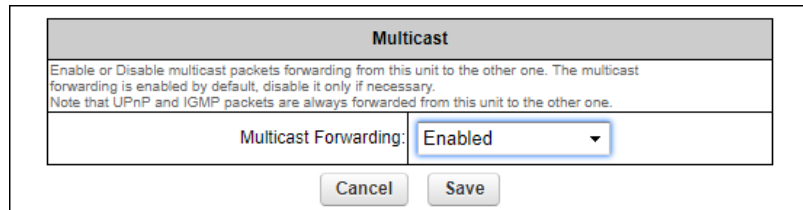

Figure 41. Multicast dialog (Bridge mode)
2. Click the **-multicast** link under **ADVANCED SETTINGS** in the left-hand settings menu (Figure 41 (page 103)).